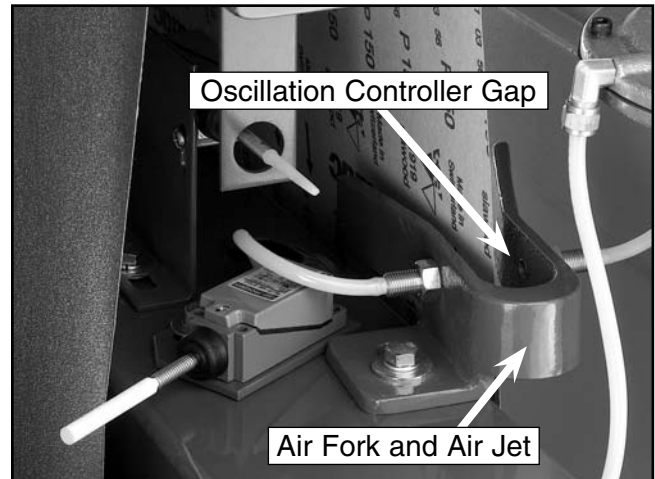

Figure 29. Oscillation components.
3. An adequate stream of air through the air fork gap (**Figure 29**) is essential for proper oscillation. If the jet of air is weak through the gap, the belt will track away from the controller and into the limit switch on the opposite end of the roller. The pivot action of the upper roller, and the resulting oscillation of the belt, are dependent upon adequate airflow through the air fork gap.